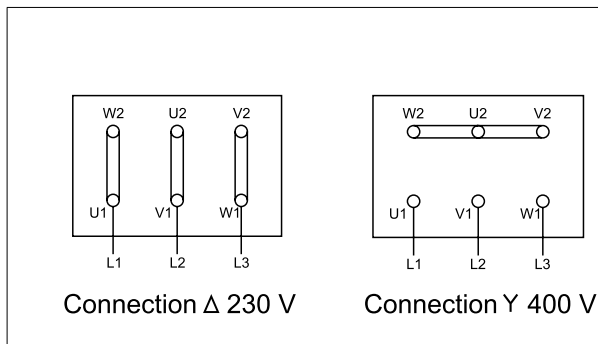
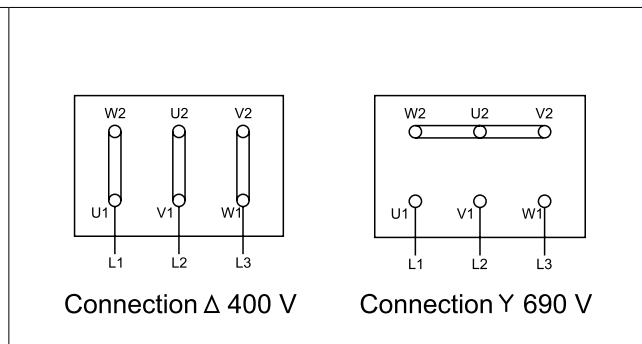

FIG. 29 (230/400 V electric motor)
FIG. 30 (400/690 V electric motor)
5.8- Electric connection to the electric motor terminal board (FIG. 29 and FIG. 30)